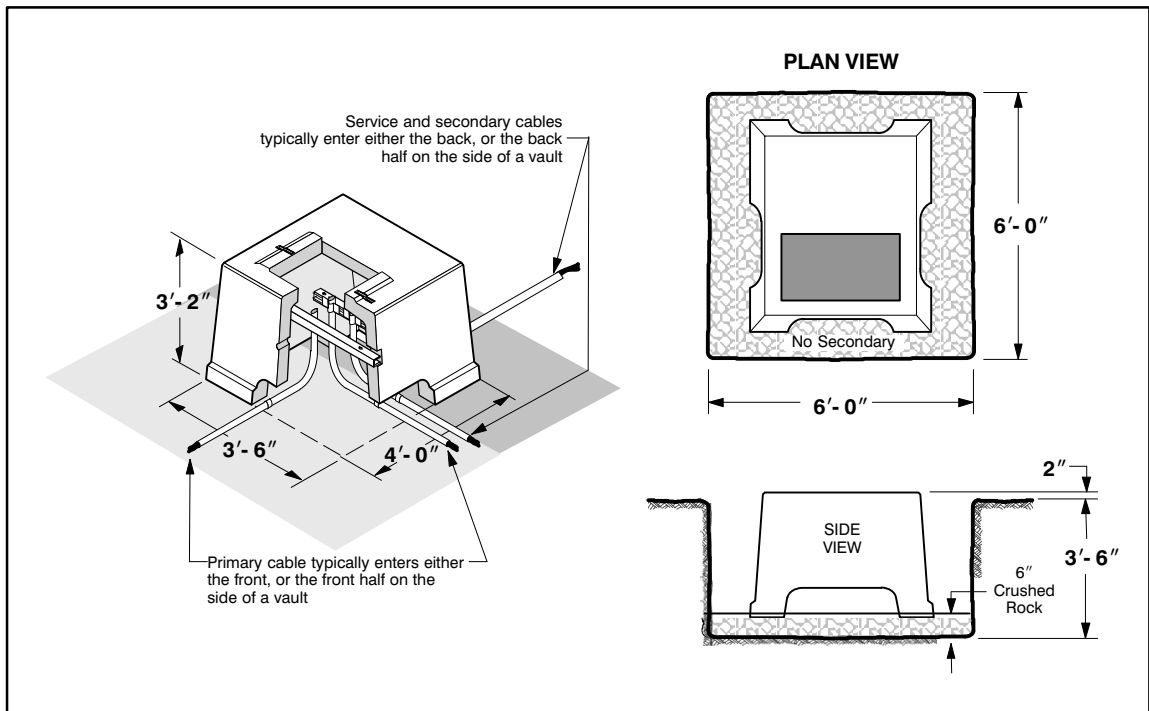

Figure 4 Minimum dimensions and excavation requirements for a single-phase padmount transformer vault
- Grouting around your service conduits that enter into PSE vaults (except for the vault types shown in *Figure 4*).